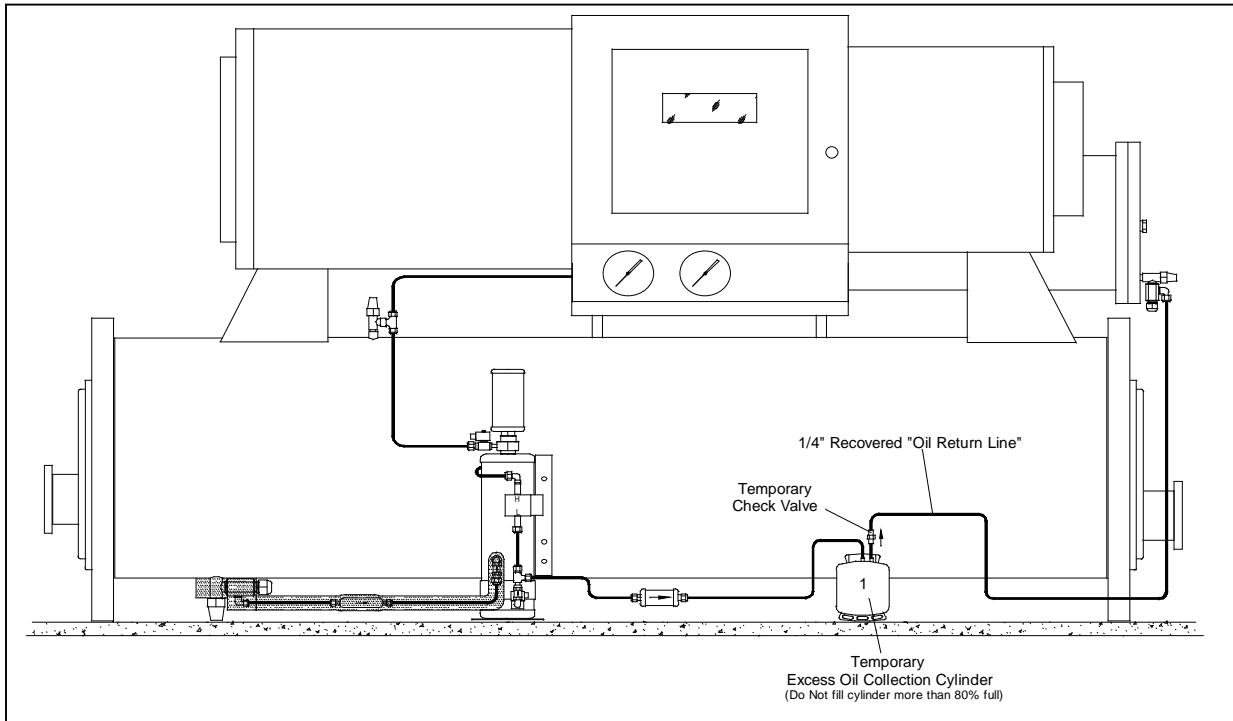

Figure 3. - CORRECT Optional Oil Collection Cylinder Hook-up
Option 2: Plumb the **“Oil Return Line”** as per **“Option (2)” Piping Instructions (see page 20)**. As determined by previous calculation, install sufficient containment capacity, **such as a single 50, 100, 200, etc., pound refrigerant recovery cylinder**, in the **“Oil Return”** line between the OAM Purger and the Chiller’s oil sump. The cylinder will retain and hold the excess oil as it is stripped from the refrigerant, preventing it from accumulating in the oil sump. **(See Figures 3 & 4 on page 22 which includes approximate oil holding capacities of various size refrigerant recovery cylinders.)** Once the stripping process is complete the cylinder and excess oil must be removed from the system.
CAUTION: **DO NOT** connect multiple cylinders in series. The excess oil collection hook-up **MUST** be limited to a single cylinder: i.e., a single 50, 100, or 200 lb., etc. cylinder, and **MUST** not be filled to more than 80% of its rated liquid capacity. NOTE that the refrigerant cylinder will not hold the same weight of Oil as refrigerant. (See Figures 3 & 4 on page 22 which indicates the approximate oil holding capacities of various size refrigerant recovery cylinders.)
2. Plumb the selected excess oil containment vessel in the Oil-Return line **precisely** as illustrated in **Figure 3 on page 22**. Install the **temporary check valve** (provided in the OAM Purger Installation Kit) in the oil return line between the containment vessel and the oil sump, **precisely** as shown in figure 3, on page 22. The **Temporary check valve MUST** be
CAUTION: Option (2) is intended only as a convenient method of dealing with excess oil. You **MUST** still occasionally monitor the oil sump for excessive oil accumulation since there may be more excess oil than anticipated. Refer to approximate oil holding capacities of the refrigerant recovery cylinders under Figure 3 on page 22.